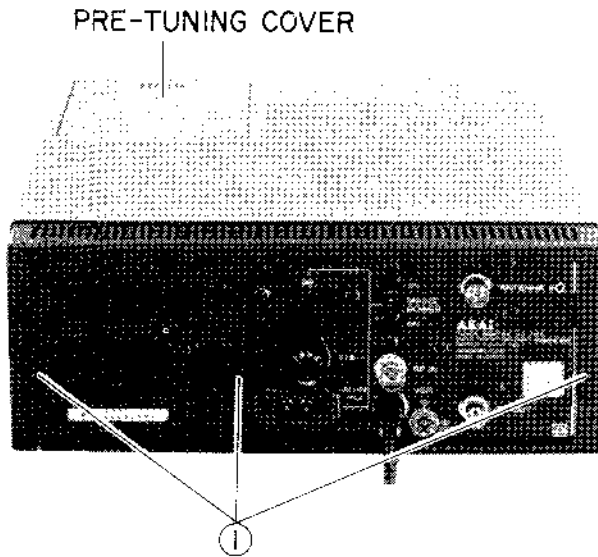

Fig. 2-1 Top cover
1. Take out 3 screws ① shown in Fig. 2-1. Carefully raise the rear of the top cover and remove the top cover.